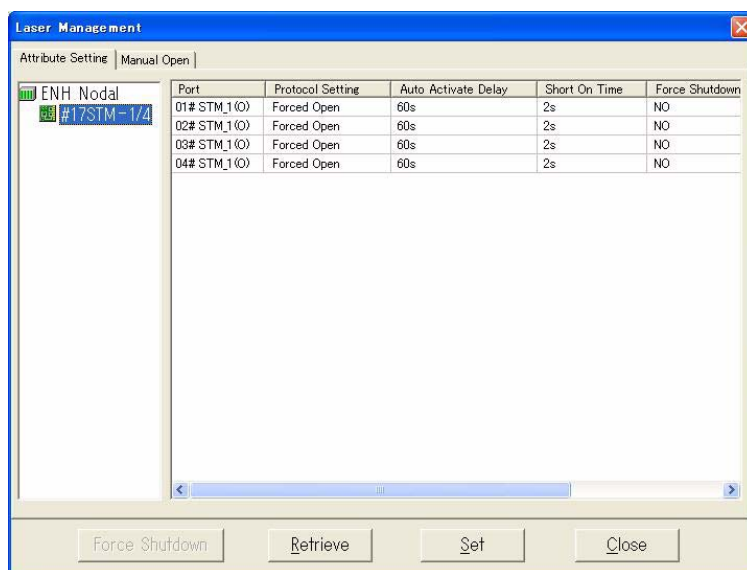

Fig. 4-4-33 Laser Attribute Setting
- 2 From the main menu on the ADM Management Tool, select **Laser Management** from the **Configuration** menu. The **Laser Management** dialog box with **Attribute Setting** tab selected appears shown in *Fig. 4-4-33* appears: